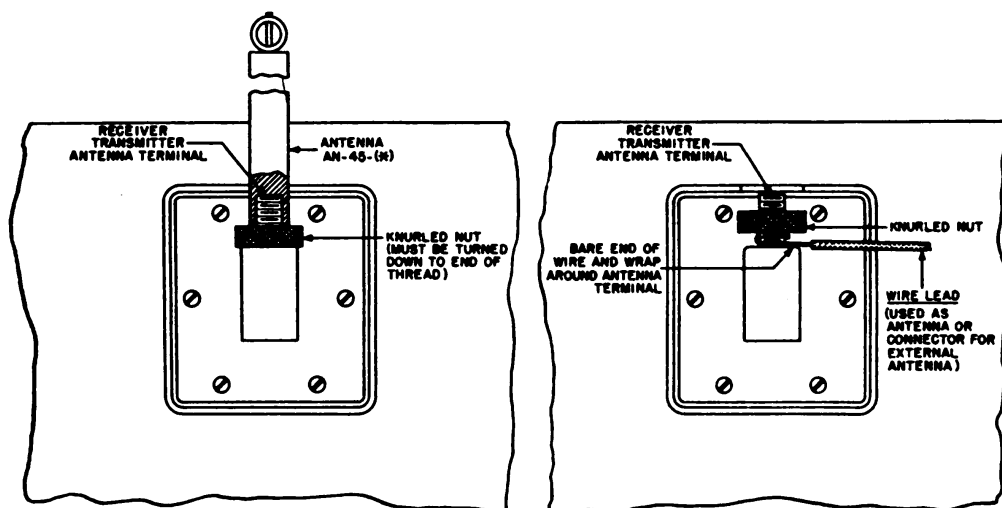

Figure 4. Radio Receiver and Transmitter BC-620-(\*), Rear View, Showing Antenna Terminal Connections
(3) Where it is necessary to substitute a wire antenna for the mast, use a 27-foot length of antenna Wire W-29. Loop the uninsulated end of the wire around the antenna terminal and fasten it between the knurled nut and the square portion of the terminal. (See Figure 4.) *Be sure to remove all insulation from that portion of the wire which is to be secured under the nut.*
(4) Unpack the mast bracket and mount it on the vehicle, using suitable bolts or screws. Mount it in the position that is best suited to the limitations of the vehicle and to the mounting space requirements for the radio set. As indicated in Paragraph 6c(2), it is better to place it close enough to Mounting FT-250-(\*) so that the length of the antenna connecting lead can be a 2-foot ( $\pm$  1 in.) length of wire.
(5) Assemble Mast Base MP-48 to the mast base bracket. Connect the antenna terminal of the receiver and transmitter to the top terminal of the mast base. Use Wire W-126 (or W-128) 24 inches ( $\pm$  1 in.) long, routed through the guides of the mast base. (See Figures 4, 8, and 10.) Be sure to remove the inner connector of MP-48 when using a wire lead-in, otherwise the range of the set will be reduced about 50 percent. In those installations where you need a lead-in longer than 24 inches ( $\pm$  1 in.) *you must use Coaxial Cable CD-636 and Terminal Box TM-206*. Place mast base Cover BG-108 over the complete assembly.
(1) Place battery Case CS-79-(\*) on the ground or other support. Open the case and remove Handset TS-13-(\*), and Antenna AN-45-(\*). See that the battery plugs are properly inserted into the batteries. Close the case cover and latch it. Place the radio receiver and transmitter on Case CS-79-(\*) and fasten the two units together with catch clips. Join the cable connectors of the two units, placing the key in the keyway, and screw the fittings together securely. Extend Antenna AN-45-(\*) to its full length and screw it to the antenna terminal on the rear of the radio receiver and transmitter case, first tightening down the knurled nut securely. (See Figure 4.) Insert the Handset TS-13-(\*) plugs into the proper jacks on the radio receiver and transmitter panel. The set is now ready to operate.
(2) Turn the switch and volume control knob full ON (to the right.) Turn the meter switch to OPER. Turn the channel selector knob to the channel on which communication is to be made. Listen for the station with which communication is desired. Regulate volume to the desired level. To transmit, press the switch on the handset and speak clearly into the microphone. Release the switch when transmission is completed. To turn the radio set off, turn volume control knob to OFF, (to the left).